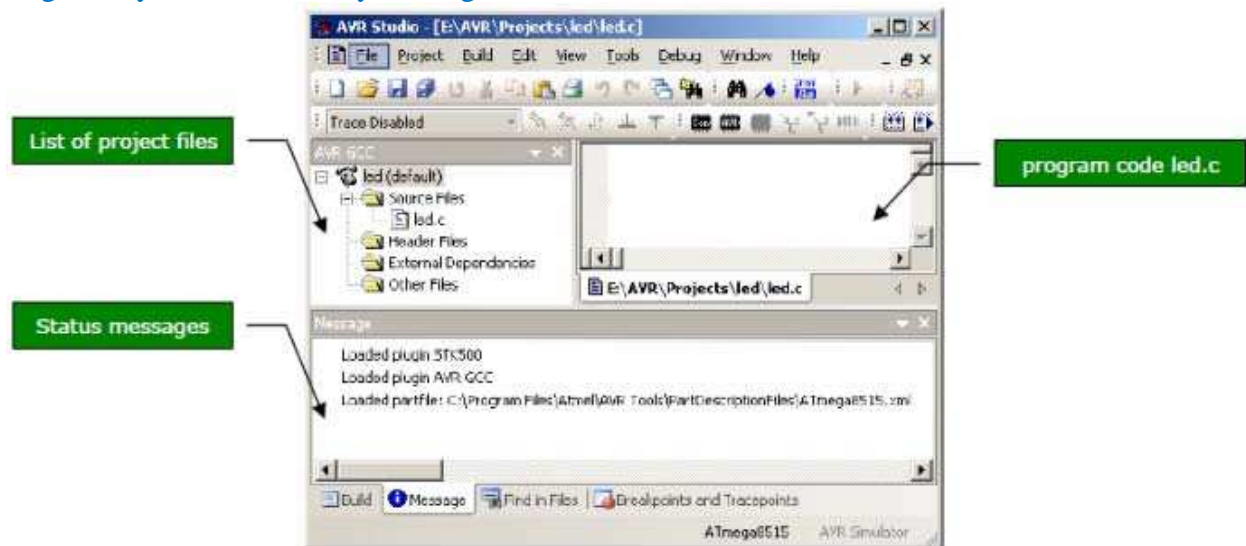

Figure 3: The AVR Studio with a project file open.
- A project file will be created and AVR Studio displays an empty file led.c (see Figure 3).